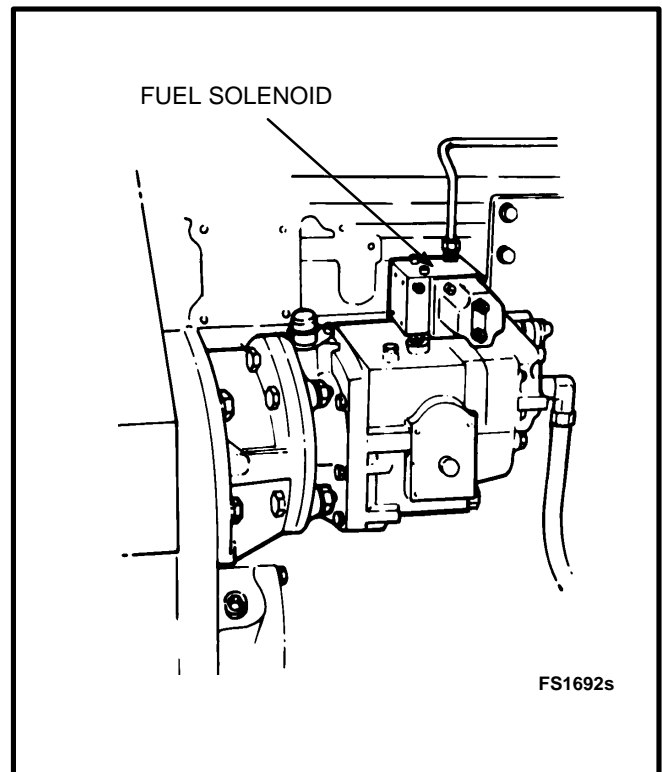

FIGURE 6-4. FUEL SOLENOID VALVE LOCATION
5. Disconnect wire from fuel solenoid valve (Figure 6-4).